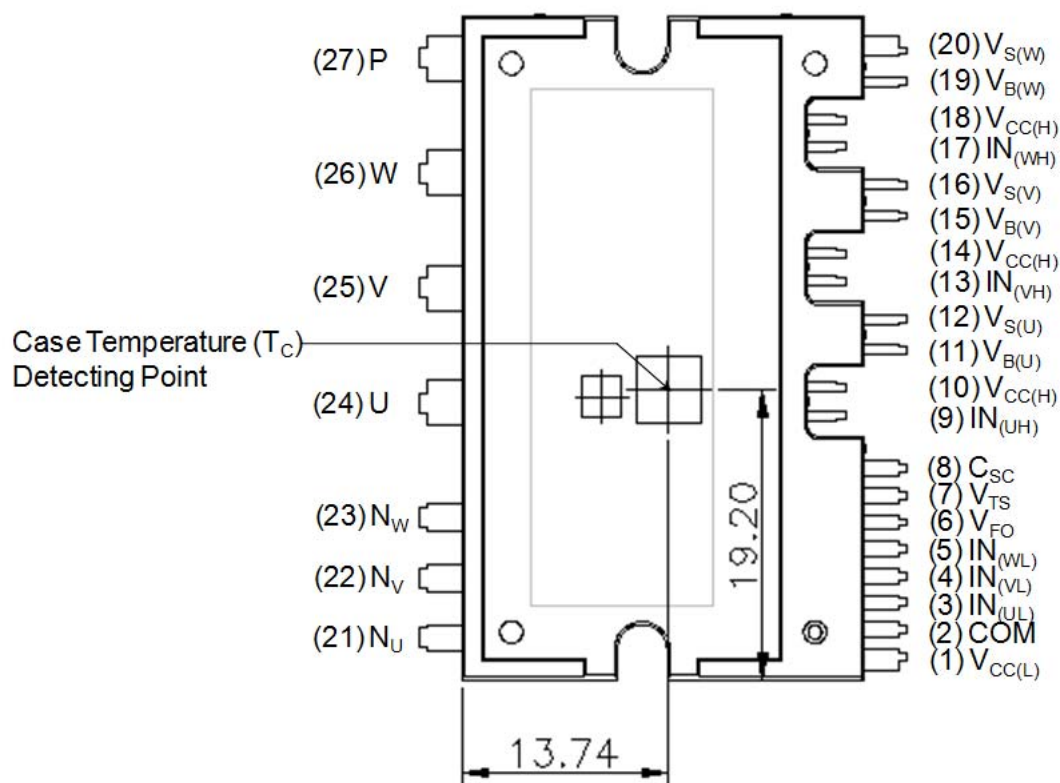

Figure 2. Top View
5. For the measurement point of case temperature (T_C), please refer to Figure 2.